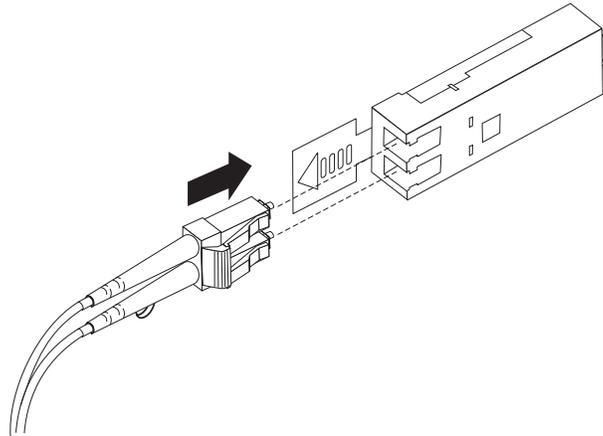

Figure 32. Inserting an LC-LC Fibre Channel cable into an SFP module
- Carefully insert this end of the LC-LC cable into an SFP module that is installed in the DS5020. The cable connector is keyed so it will be inserted into the SFP module correctly. Holding the connector, push in the cable until it clicks into place, as shown in Figure 32.